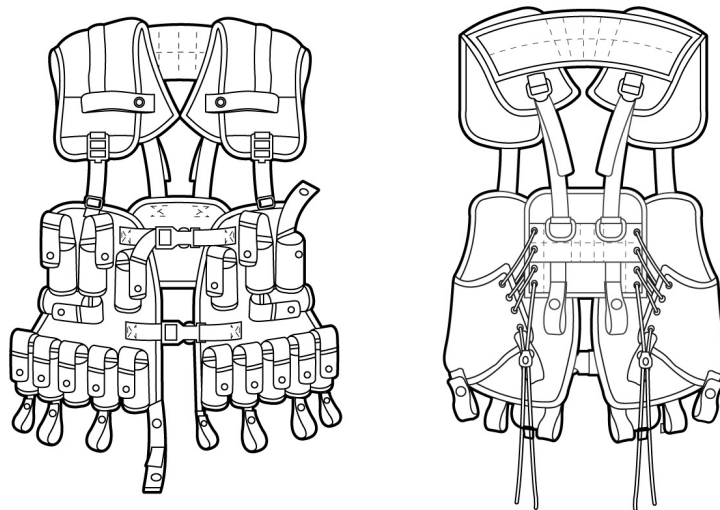

Figure 16. Grenade-Carrying Vest.
**Grenade-Carrying Vest (Replaced by MOLLE II TM 10-8465-236-24&P).** The 40mm Grenade-Carrying Vest (Figure 16) is intended for use by the combat Soldier armed with the M203 or M79 Grenade Launcher. It is constructed of a 7-ounce nylon fabric and weighs 2.1 lbs. empty. The vest is compatible with the standard equipment belt which is secured to the vest with 10 belt loops. The loops use hook-and-loop fasteners and snaps. The vest has 18 permanently attached ammunition pockets that can carry four pyrotechnic and 14 high-explosive rounds. The pocket covers are secured by one snap. A pull tab is used to open the pocket. The shoulders are protected by 1/2-inch foam padding. The vest closes in front with two chest straps, using plastic quick-release buckles. Two 2 1/2-inch webbing and two D-rings sewn to the back of the vest can be used as equipment attachment points. This vest replaced the M-79 grenade vest. Both vests are replaced by the MOLLE II Grenadier Set. Refer to TM 10-8465-236-24&P.